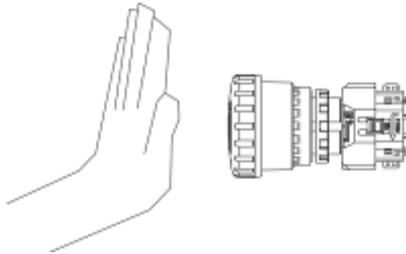

Figure 8.36 Press the emergency stop button
2. During an emergency situation, pressing the emergency stop button on the teach pendant can cut the power outputted to the robot from the controller; Figure 8.36 below is the emergency stop button on the teach pendant.
1. Press the emergency stop button to cut off the power sent to the robot from the controller, as shown in Figure 8.36.